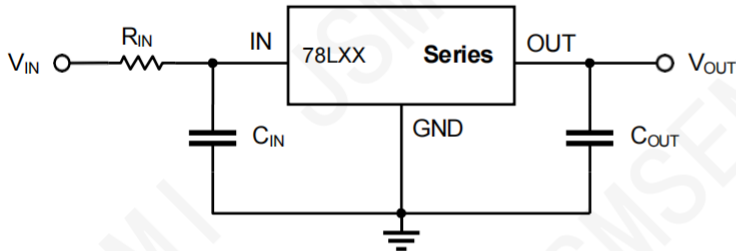

Figure 8-3. Resistance is used at IN
2. Place a resistor with appropriate resistance in series before the IN of the voltage regulator, which can help the voltage regulator share part of the energy in case of surge. The resistance value of the resistance should not be too large. The specific resistance value depends on the application of the circuit. Generally, the resistance value of this resistance does not exceed 20Ω. As shown in Figure 8-3.
The 78LXX series can obtain better transient response with the help of output capacitance. However, if the output capacitor is relatively large, the surge current generated by the charging of the output capacitor will also be large at the moment of power on of the regulator, and the large surge current passing through the regulator may damage the internal circuit. When the output capacitance is large, adopting the circuit design shown in Figure 8-3 will reduce the possibility of damage to the device due to large surge current to a certain extent. It is recommended that the selection of output capacitor should not exceed 20μF. **If the selection of output capacitor exceeds 20μF, it is recommended to adopt the circuit design in Figure 8-3 to reduce the possibility of accidental failure of the device due to large surge current during power on.**